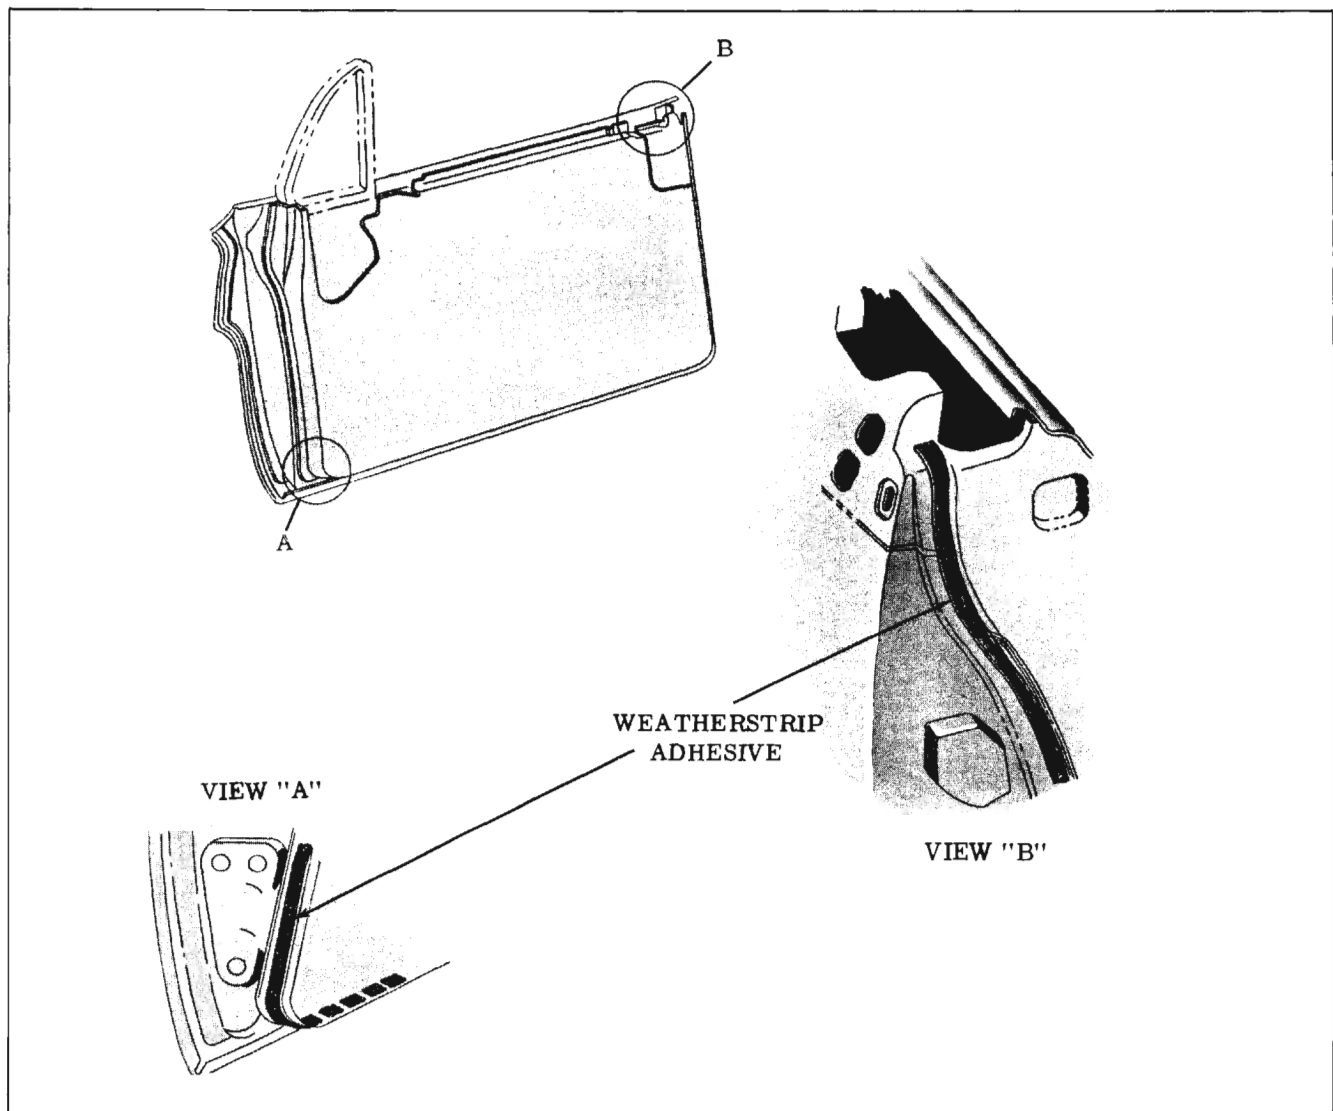

Fig. 16-22 Front Door Weatherstrip Cementing
2. Carefully break cement bonds securing weatherstrip to door. A putty knife will prove helpful in breaking cement bond. (Fig. 16-22)
2. Clean off old cement from door to insure a clean cementing surface. Apply a bead of weatherstrip adhesive to lock pillar facing of door. Begin adhesive application at belt line and continue down door for approximately seven to nine inches. (Fig. 16-22)